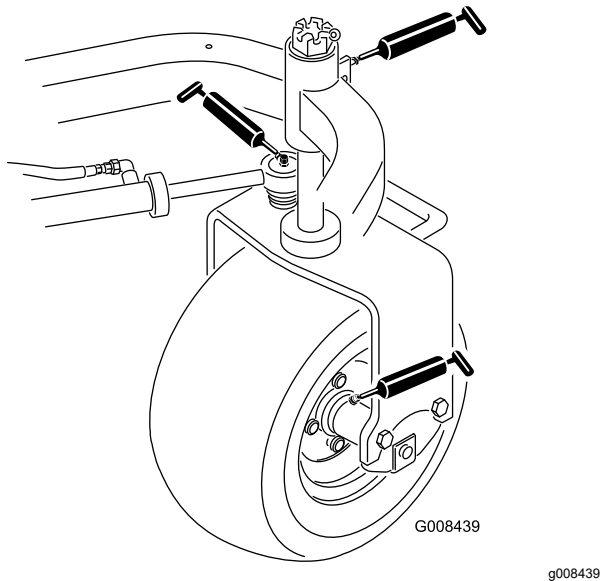

Figure 27
- Rear wheel hub (1) (Figure 27)
- Castor bearing (1) (Figure 27)
- Steering cylinder (2) (Figure 27)